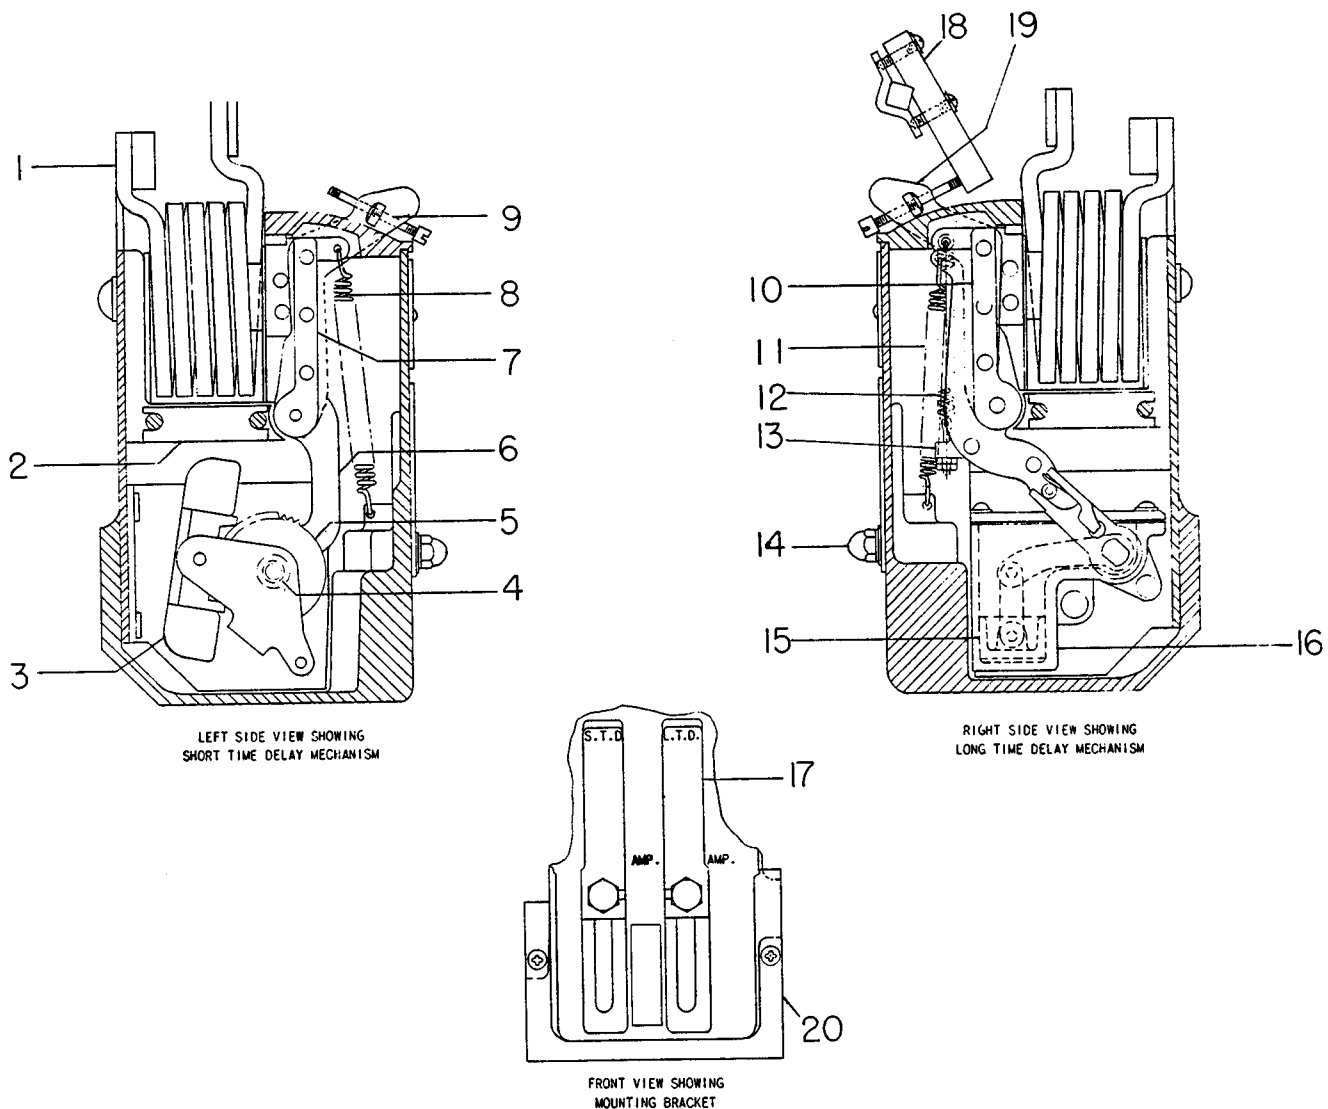

Fig. 27 (P-6423678) Series overcurrent tripping device- EC-1 (AK-50 only)
### **SERIES OVERCURRENT TRIPPING DEVICE EC-1 (Fig. 27)**
#### **SHORT TIME-DELAY TRIPPING (Fig. 27)**
The armature (7) is restrained by calibrating spring (8). After the magnetic force produced by an overcurrent condition overcomes this restraining force, the armature movement is further retarded by an escapement mechanism which produces an inverse time delay characteristic. The mechanism is shown on Fig. 27.
#### **LONG TIME-DELAY TRIPPING (Fig. 27)**
The armature (10) is restrained by the calibration spring (11). After the magnetic force produced by an overcurrent condition overcomes this restraining force, the armature movement is further retarded by the flow of silicone oil in a dashpot, which produces an inverse time delay characteristic. The mechanism is shown on Fig. 27.
#### **INSTANTANEOUS TRIPPING (Fig. 27)**
#### **ADJUSTMENTS (Fig. 27)**
#### **REPLACEMENT (Fig. 27)**